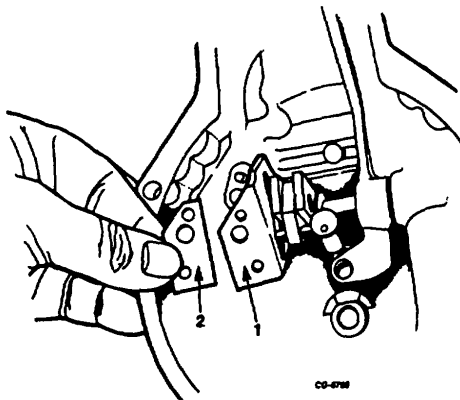

Figure 12 Locating for S-Plate Shim Adjustment
8. Add shims under S-plate mounting to decrease basic setting or remove shims to increase basic setting (Figure 12). Check for free travel of guide pin shaft in S-plate after resetting. Check to be sure cotter pin has been used to secure pin between rack link and floating lever.